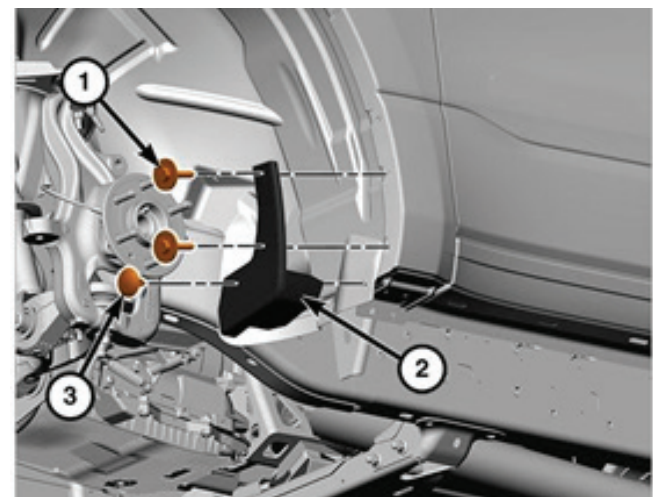

Figure 5
9. Using an 8mm socket wrench, remove the two (2) screws holding the splash shield trim to the wheel well. (Figure 5, #1)
10. Using a plastic panel pry tool, remove the single push pin from the splash shield trim. (Figure 5, #2)